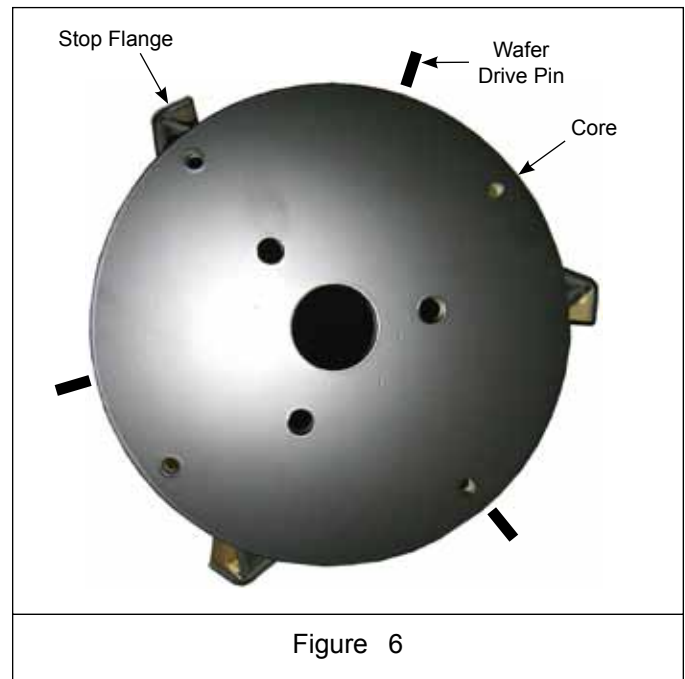

Figure 6
- a. Note the location of drive pin on inside ring of each brush wafer. Position each wafer so its drive pin is positioned between the stop flanges. Rotate each subsequent wafer before installing so the position of its pin is staggered on the core by one stop flange. See Figure 6.